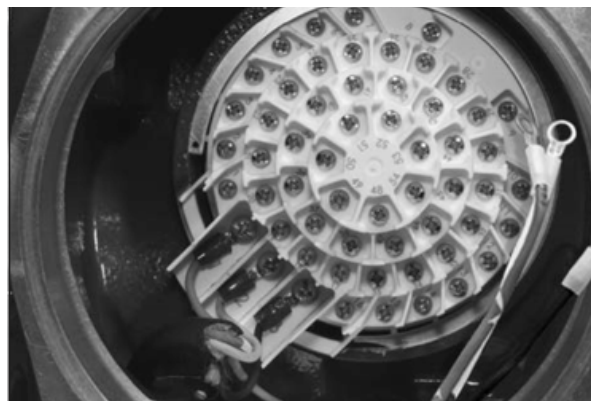

Figure 19 - Ring Tongue Connections
5. Install ring tongue connectors as shown in Figure 19.